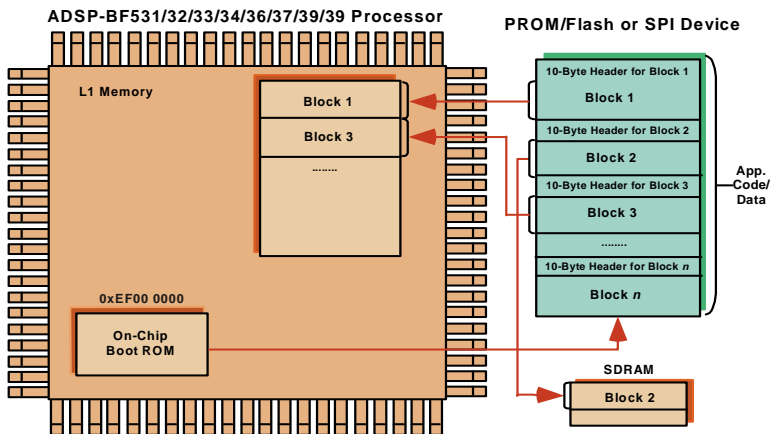

Figure 3-1. ADSP-BF531/BF532/BF533/BF534/BF536/BF537/BF538/BF539 Processors: Booting Sequence
3. The `NOBOOT` bit, if bit 4 of the `SYSCR` register is not set, performs the full boot sequence (Figure 3-1).
The loader utility converts the application code (`.dxe`) into the loadable file by parsing the code and creating a file that consists of different blocks. Each block is encapsulated within a 10-byte header, which is illustrated in Figure 3-1 and detailed in the following section. The headers, in turn, are read and parsed by the on-chip boot ROM during booting.